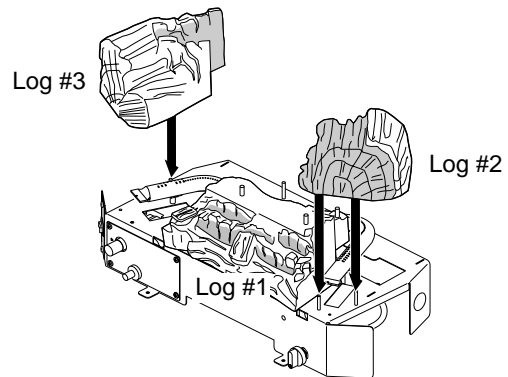

Figure 21 - Installing Log #2 (Right) and Log #3 (Left) (Model CSG3924NR Shown)
2. Place log #2 to the right of log #1. Log #2 will wrap around right end of rear burner and sit on two log alignment screws (see Figure 21).
3. Place log #3 on left side of base and onto alignment screw shown in Figure 21, to left of rear burner. Log #3 will wrap around left end of rear burner.